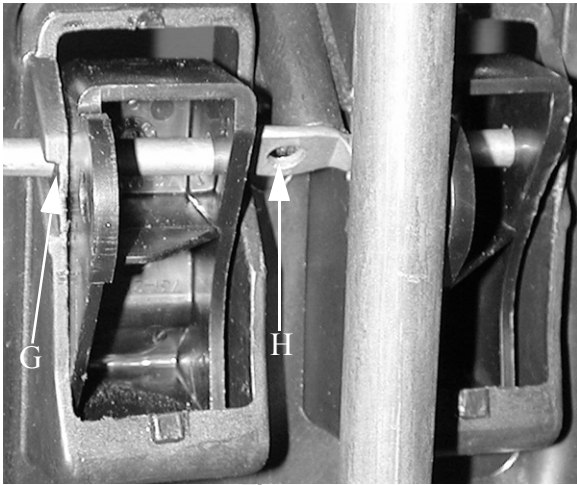

Figure 5
7. Insert the cruise control lever onto the Brake/Cruise pivot rod. (Figure 5) Reinstall the brake/cruise pivot bar in the same orientation as it was removed.
NOTE: The brake/cruise pivot rod should be installed into the hole in the outer cruise lever dash support (G) to begin installation. The rod should then be pressed into the corresponding hole in the opposite side of the dash. Reinstall the pivot bar mounting screw once the mounting hole (H) is aligned. (Figure 5)